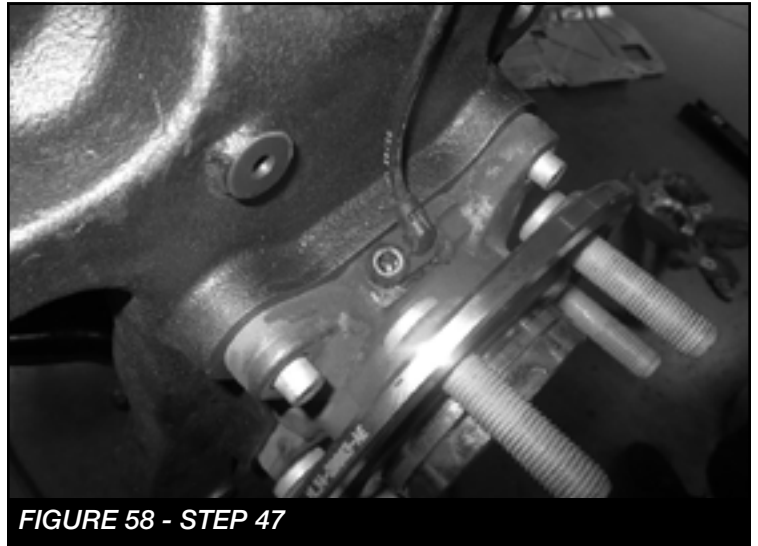

FIGURE 58 - STEP 47
47. Install the wheel speed sensor using the factory screw. Make sure the end of the sensor is clean. Torque to 7 ft-lbs. **SEE FIGURE 58**